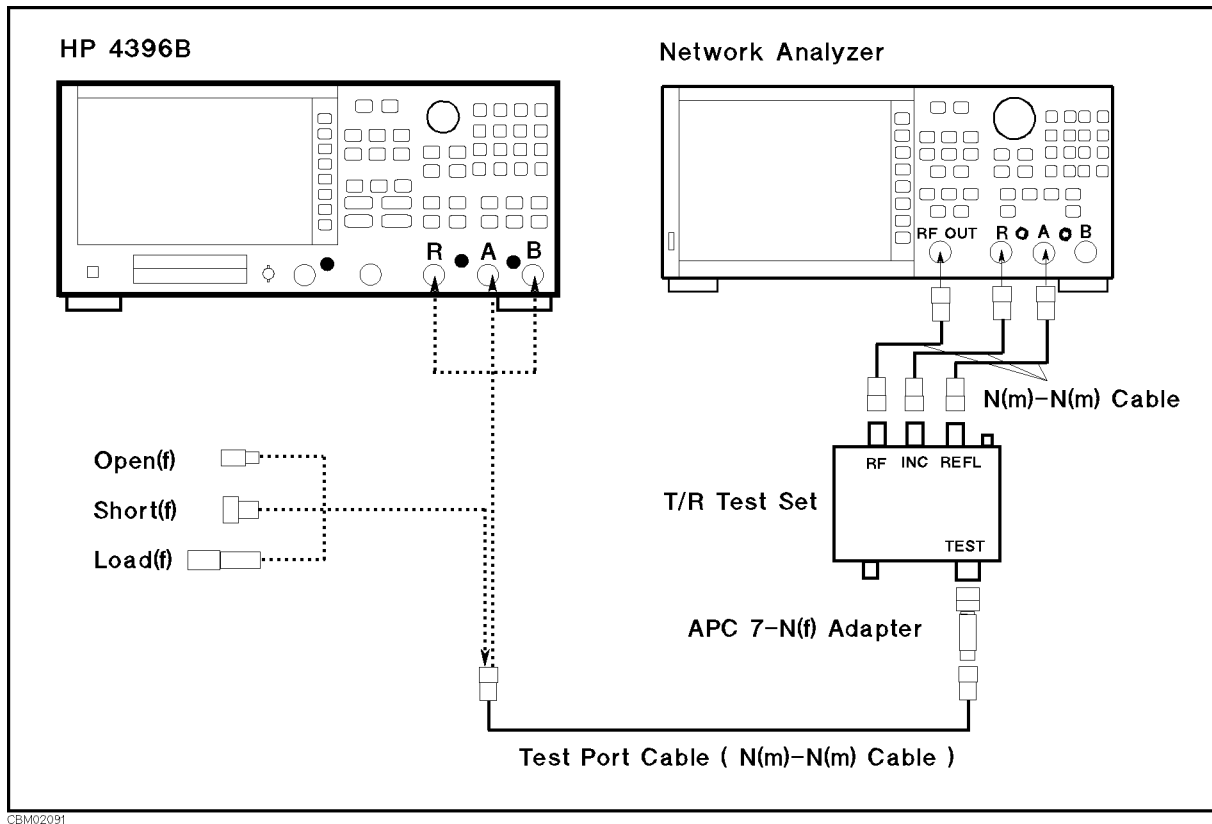

Figure 2-10. Impedance Test Setup
1. Connect the test equipment as shown in Figure 2-10. Don't connect anything to the end of the test port cable.